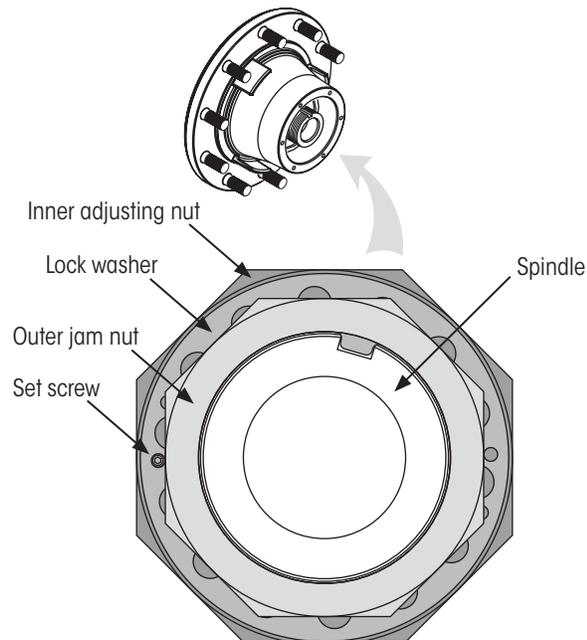
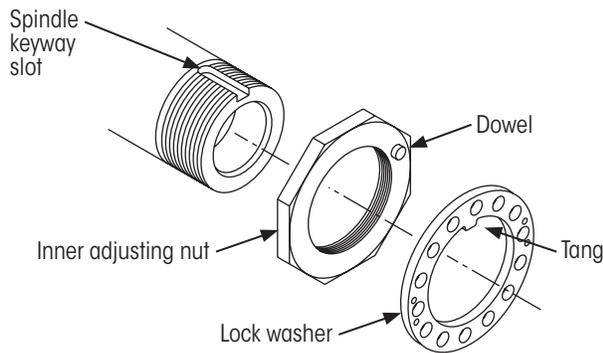
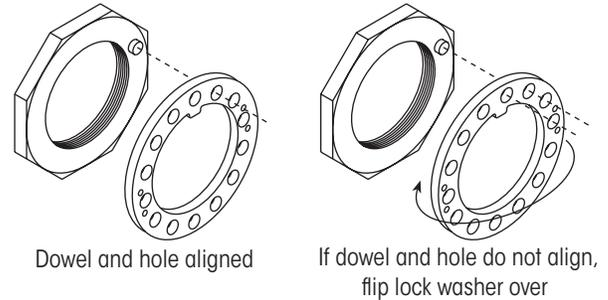

Figure 15: Three-piece nut system components
Figure 16: Adjusting nut and lock washer installation
Figure 17: Align adjusting nut dowel with hole in lock washer
The three-piece spindle nut system (Figure 15 on page 15) includes an inner adjusting nut, lock washer, inner jam nut and set screw.
1. Install inner adjusting nut (Figure 16) on spindle, dowel side out, and tighten to 200 ft. lbs. (271 Nm) of torque while rotating wheel.
6. Install lock washer (Figure 16). Ensure lock washer tang fits in the spindle keyway slot and inner adjusting nut dowel fits in one of the holes in the lock washer. If this alignment cannot be achieved, remove the lock washer, flip it over and reinstall it on spindle (Figure 17).
8. Install outer jam nut (Figure 15).
- i. **Remove** outer jam nut (Figure 15).
NOTE: If a smaller tightening increment is desired, remove lock washer from the spindle, flip it over, reinstall it on the spindle and tighten inner nut so its dowel aligns with the next alignment hole in the lock washer (Figure 17).
NOTE: If a smaller loosening increment is desired, remove lock washer from spindle, flip it over, reinstall it on spindle and loosen inner adjusting nut so its dowel aligns with the previous alignment hole in lock washer (Figure 17).
- A. **3-piece nut** - install set screw (Figure 1 on page 5) into an accessible threaded hole in lock washer (Figure 15). Set screw must contact inner adjusting nut. Tighten to 18±2 in. lbs. (2.0±0.0 Nm) of torque.
1. **Ensure** lock washer is properly positioned and flush with inner adjusting nut at dowel pin (Figure 15 and Figure 17).